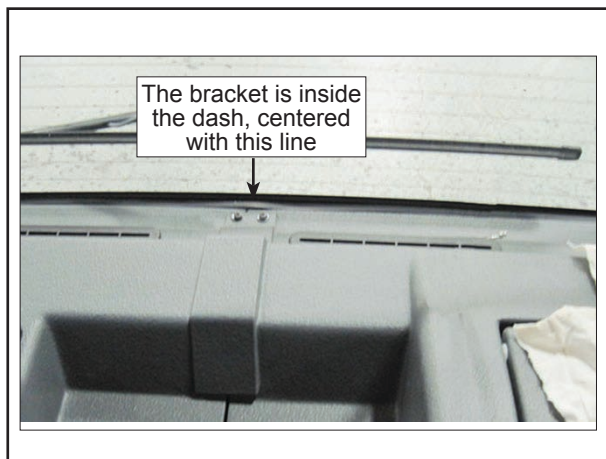
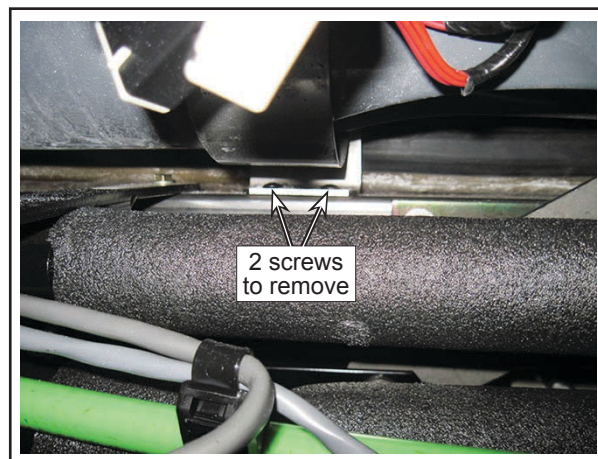

Figure 8 - Location of the Bracket
Figure 9 - Bracket Under the Dash
- 1.10. Under the dash, in the middle section (Figure 8), remove the two screws from the bracket that retains the dash to the structure (Figure 9).